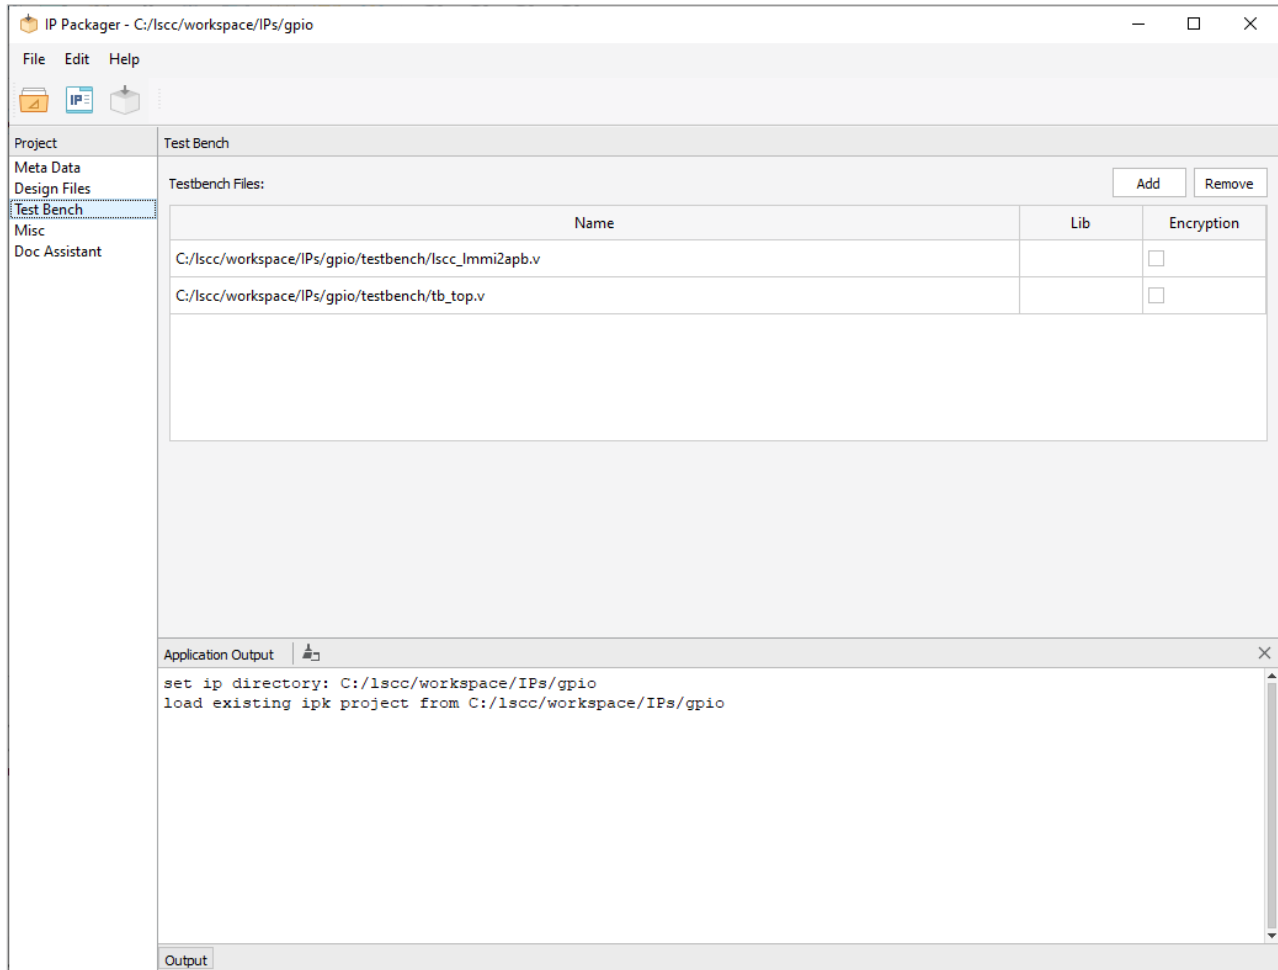

Figure 3.29. IP Packager with Test Bench Details
3. From the IP Packager Project area, click **Test Bench**. The Test Bench information is shown in detail (Figure 3.29).